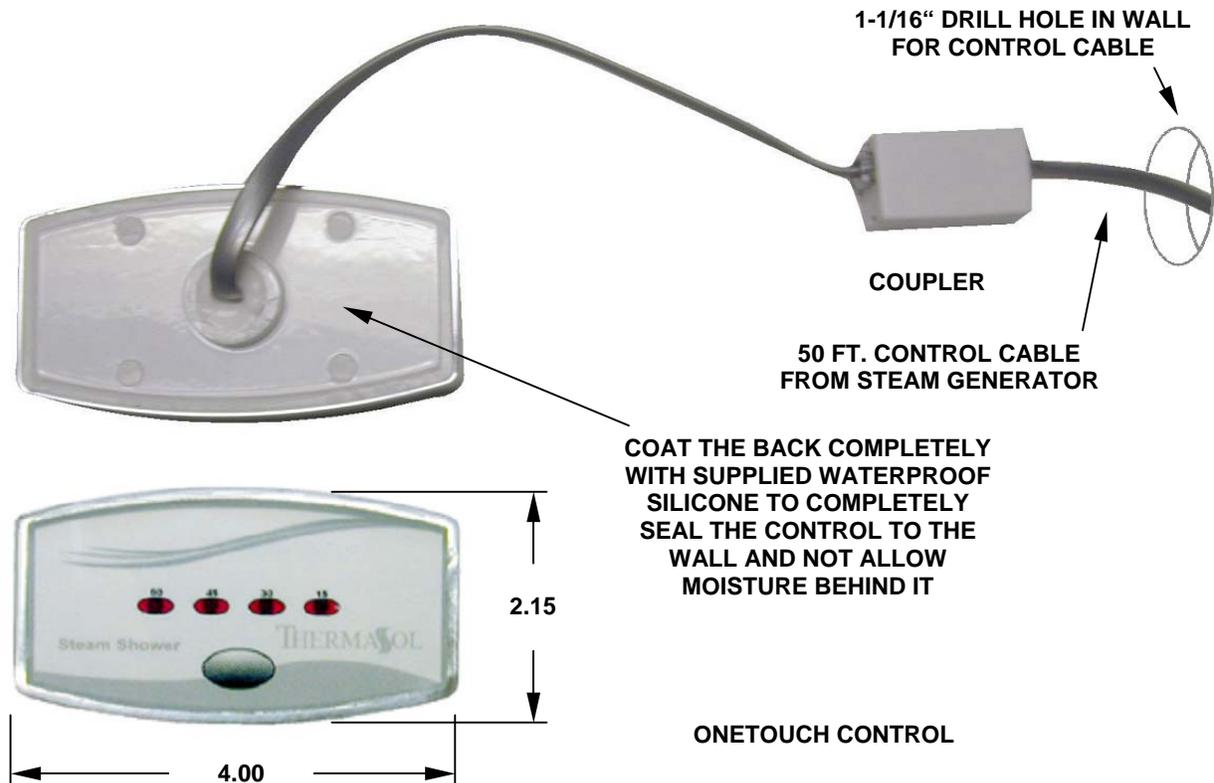

Figure 8
1. The **OneTouch** digital control (shown in Figure 8) can be located inside or outside the enclosure.